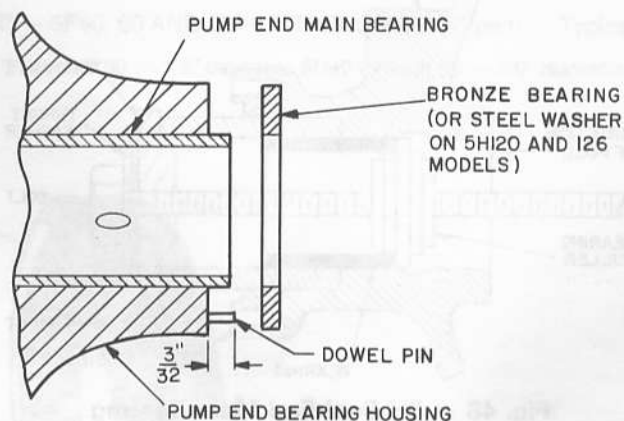

Fig. 46 — Pump-End Main Bearing Position
Pump-End Main Bearing (Fig. 46)
4. Place bearing washer on bearing with notch in washer properly positioned around dowel pin (Fig. 46).